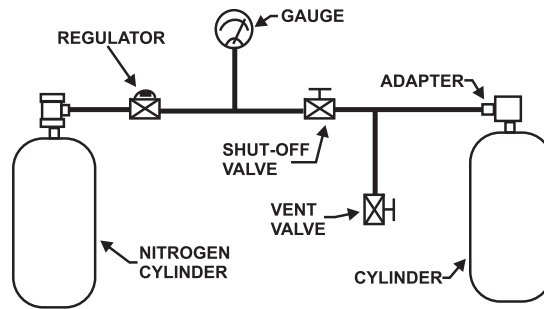

Figure 7-2. Recharge Hookup
10. Use nitrogen to pressurize the cylinder to 360 pounds per square inch (psig) at 70°F. Use a calibrated pressure gauge. **Do not rely on the pressure regulator or the cylinder pressure gauge to determine the container pressure** (see Figure 7-2 for a suggested recharging arrangement. See Figure 2-2 for Pressure/Temperature chart).
16. Use nitrogen to pressurize the cylinder to 360 pounds per square inch (psig) at 70°F. Use a calibrated pressure gauge. Do not rely on the pressure regulator or the cylinder pressure gauge to determine the container pressure (see Figure 7-2 for a suggested recharging arrangement. See Figure 2-2 for Pressure/Temperature chart).